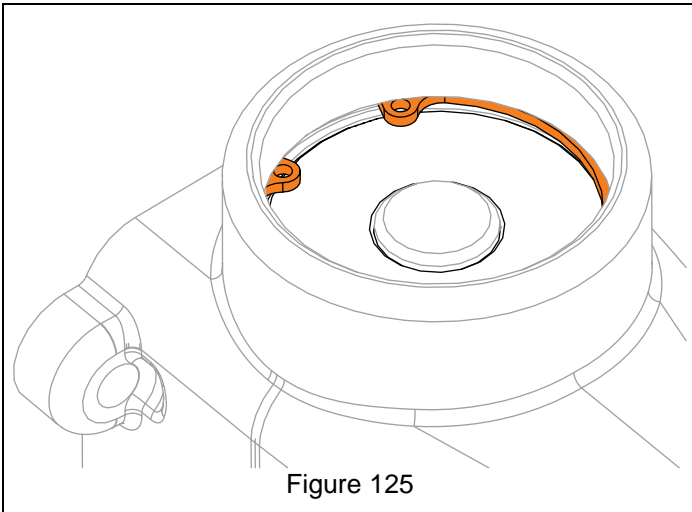

Figure 125
9. Reinstall retaining ring. See Figure 125.